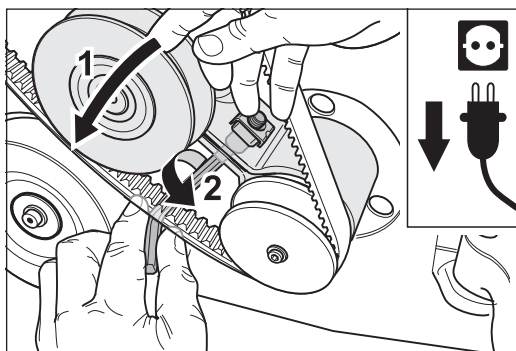

Fig. 113 Tension the suction V-belt by turning the belt tensioner counterclockwise (1 and 2).
- 6 Turn the belt tensioner counterclockwise to tension the suction V-belt (fig. 113, 1). Keep the belt tensioner in position and tighten the clamping screw at the belt tensioner carefully at the same time (fig. 113, 2).